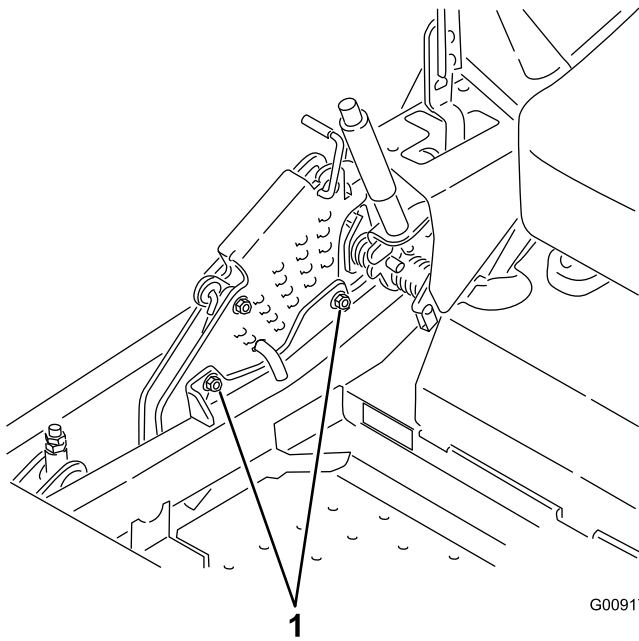

Figure 93
- 11. To adjust the single-point system, loosen the 2 bolts at the bottom of the height-of-cut plate (Figure 93).
13. Tighten the 2 bolts at the bottom of the height-of-cut plate (Figure 93).